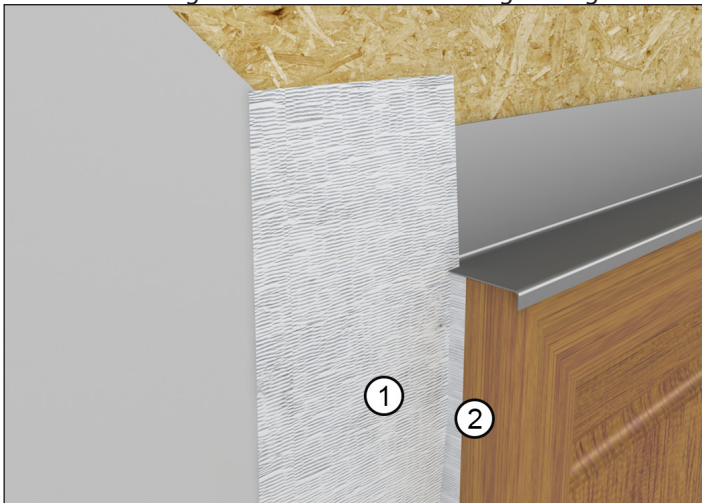

Figure 31
2. Lap vertical strips of flashing onto the unit and out over the weather resistive barrier. Make small cuts at the head jamb to allow the flashing to fold back onto the casing. See figure 31.